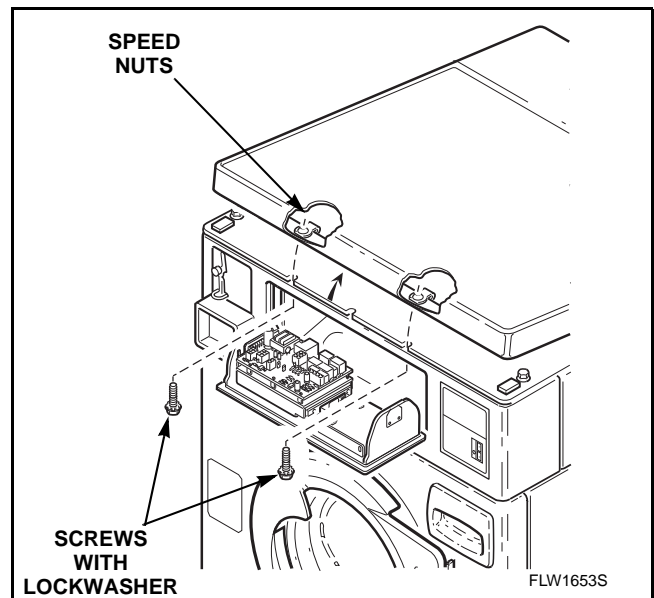
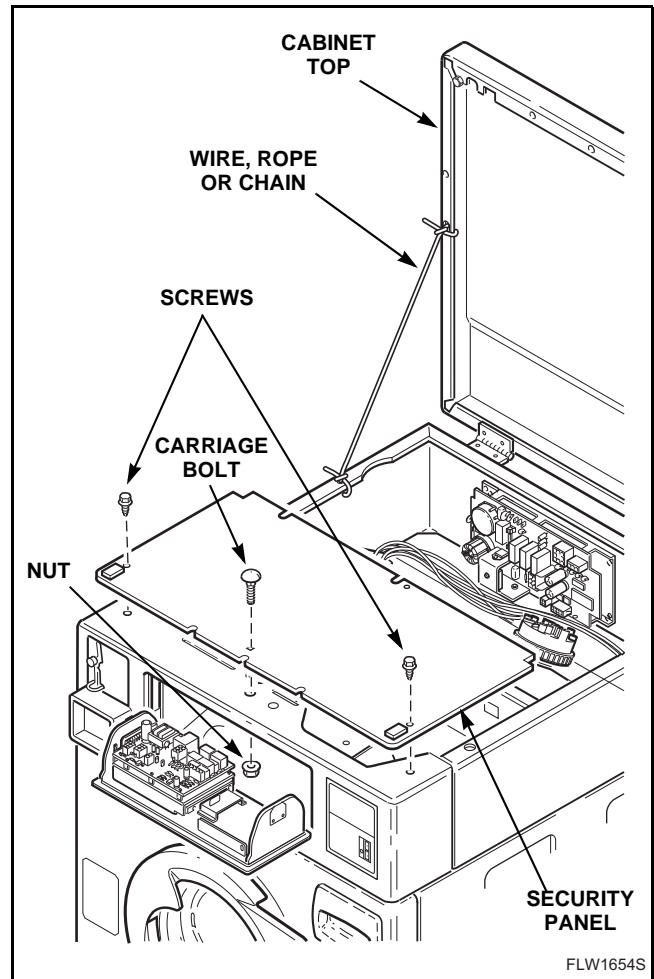
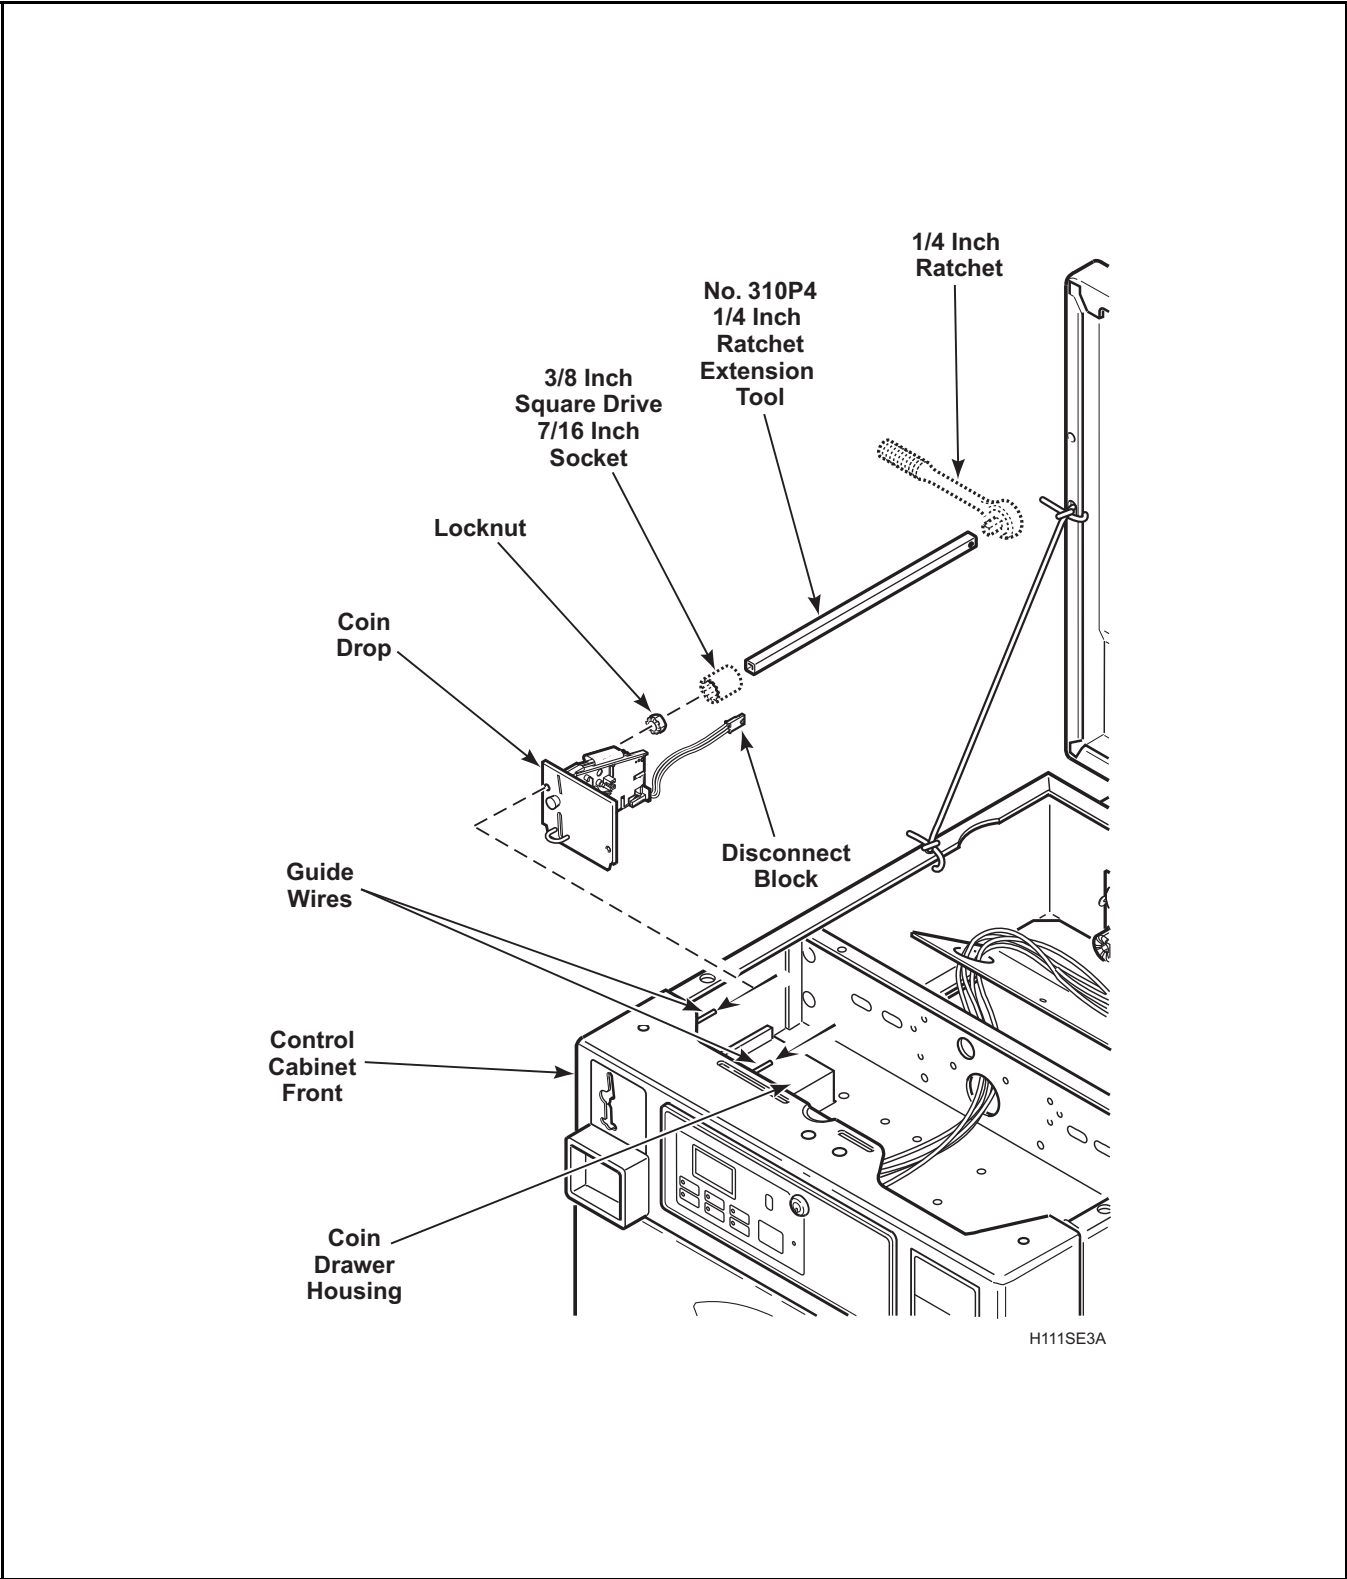
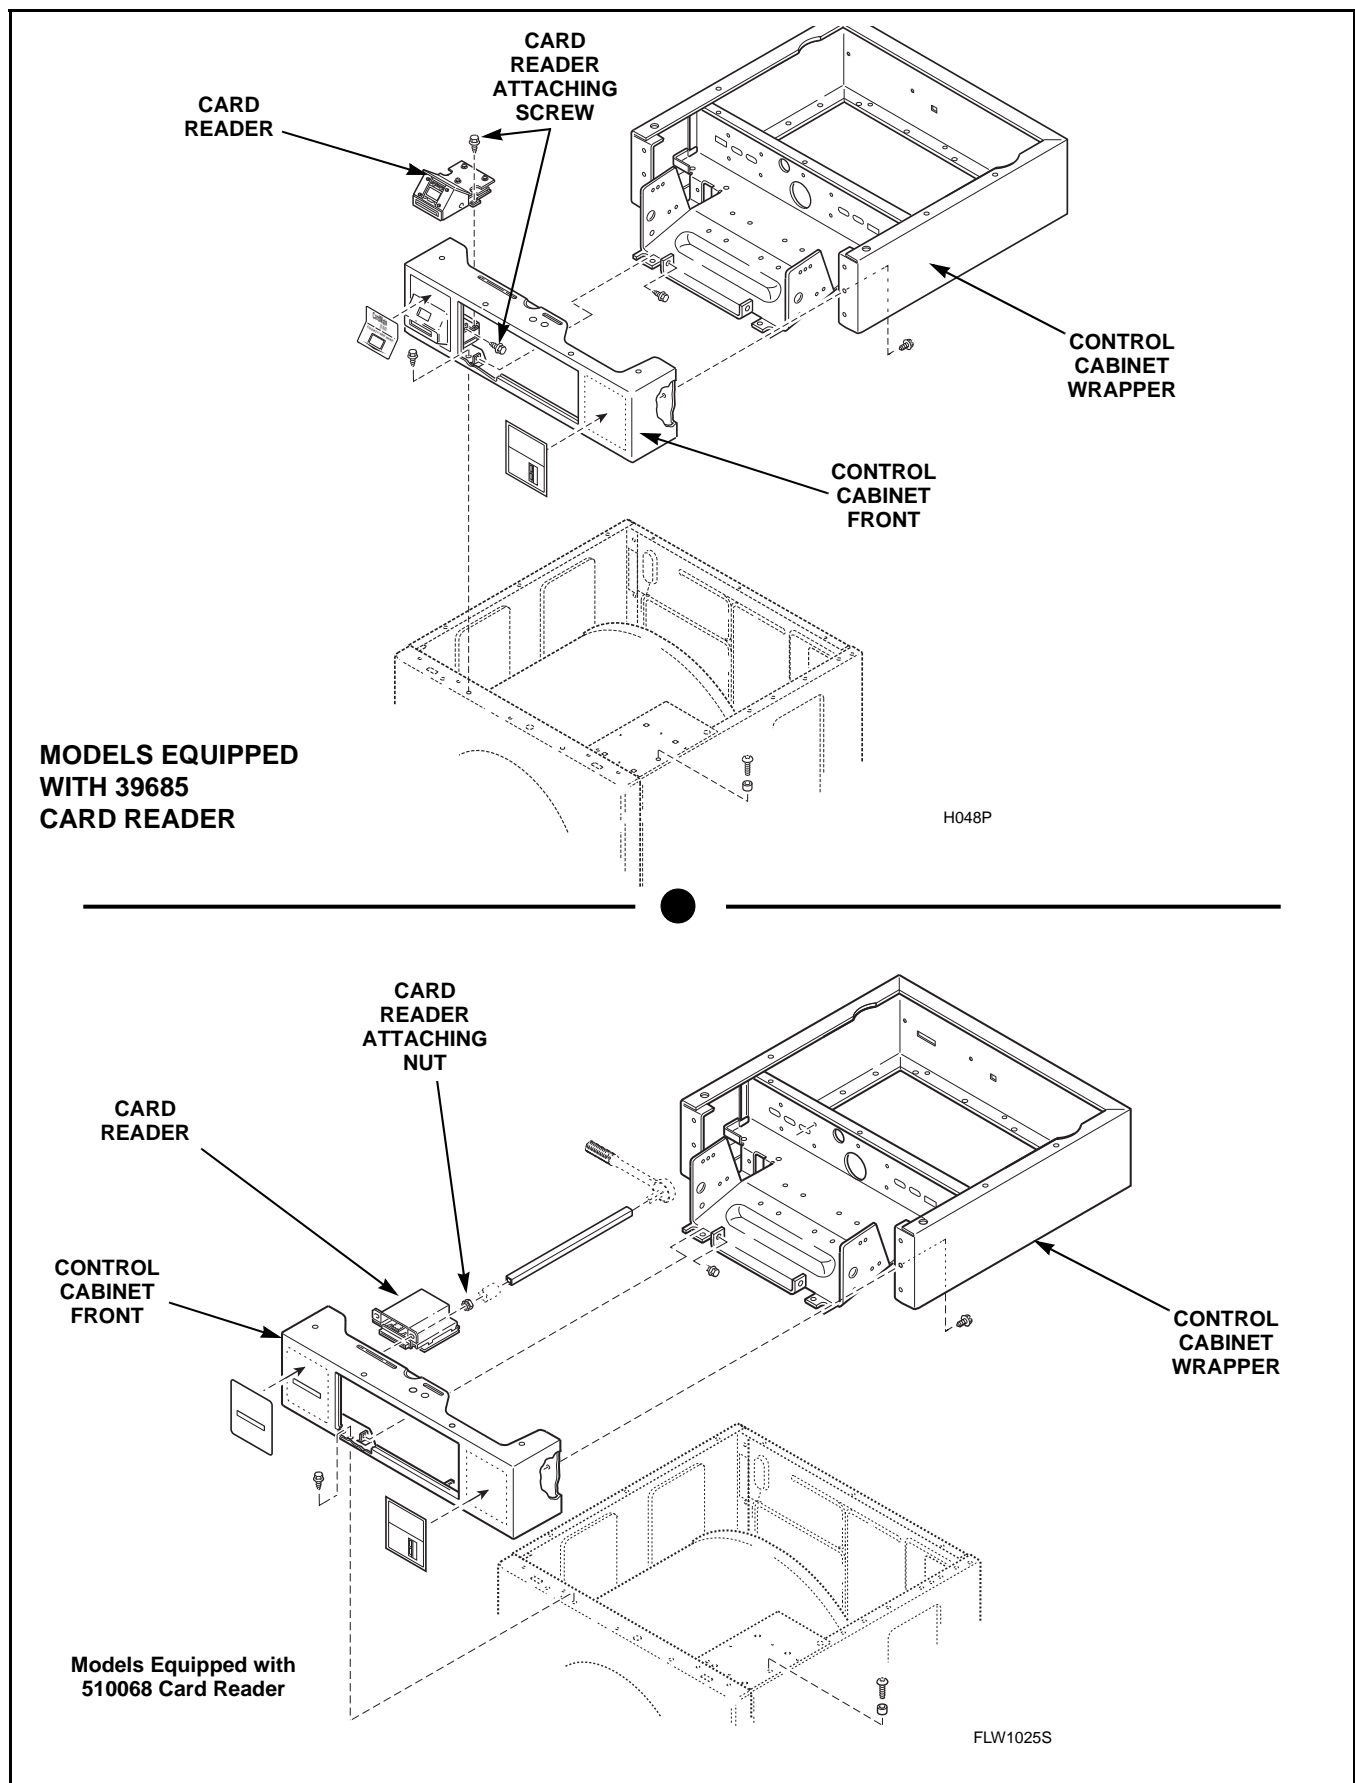

Figure 19
Figure 21
Figure 22
Figure 23
- d. Remove two screws holding front of cabinet top to top front edge of control cabinet front. Refer to *Figure 19*.
**NOTE: To avoid damage to hinges, be sure to support cabinet top with a small chain or something similar. Refer to *Figure 21*.**
- (4) Remove 2 screws holding front of cabinet top to top front edge of control cabinet front. Refer to *Figure 19*.
- (5) If area or space permits, lift cabinet top to a vertical position by hinging it on the rear hinges.
**NOTE:** To avoid damage to hinges, be sure to support cabinet top with a small chain or something similar. Refer to *Figure 21*.
- (6) If equipped with security top panel, remove screws and carriage bolt holding panel to control cabinet front. Refer to *Figure 21*. Slide security top panel back just far enough to disengage tabs on panel from control cabinet front and remove security panel. Refer to *Figure 21*.
- (7) Disconnect coin drop harness at disconnect block.
- (8) Use a 3/8 inch square drive socket, with number 310P4—quarter inch Ratchet Extension Tool, to remove 2 locknuts holding coin drop to front of control cabinet.
**NOTE:** A 3/8 inch square drive socket, size 7/16 inch, fits over end of the 310P4 Extension Tool. A 1/4 inch ratchet fits in the other end. Refer to *Figure 22*.
- (1) Lift coin drop up on coin drawer housing.
- (2) Line up holes in the front face plate of coin drop with the 2 guide wires. Slide coin drop forward, making sure guide wires are through holes in front face plate of coin drop.
- (3) Slide coin drop forward all the way until front face plate of coin drop is up against the control cabinet front, with the coin return stop completely through slot.
- (4) Using a 3/8 inch square drive 7/16 inch socket with number 310P4 1/4 inch Ratchet extension Tool, reinstall both locknuts and tighten locknuts firmly.
- (5) Reconnect coin drop wire harness.
- (6) Reinstall security top panel and secure using screws and carriage bolt previously removed.
- (7) Lower cabinet top into position and reinstall 2 screws (previously removed) holding cabinet top to top front edge of control cabinet front. Refer to *Figure 19*.
- (8) Reinstall control panel in control cabinet and lock control panel.
- (6) Remove screws and carriage bolt holding security top panel to control cabinet front. Refer to *Figure 21*. Slide security top panel back just far enough to disengage tabs on panel from control cabinet front and remove security panel. Refer to *Figure 21*.
- (7) Disconnect card reader harness at disconnect block.
- (8) Use a 3/8 inch square drive socket, with number 310P4 1/4 inch Ratchet Extension Tool, to remove screws or nuts holding card reader to control cabinet front and carefully remove card reader out through top of control cabinet. Refer to *Figure 23*.
**NOTE: A 3/8 inch square drive socket, size 7/16 inch, fits over end of the 310P4 Extension Tool. A 1/4 inch ratchet fits in the other end. Refer to *Figure 23*.**
- (1) Carefully place card reader into opening in control cabinet front.
- (2) Using a 3/8 inch square drive 7/16 inch socket with number 310P4 1/4 inch Ratchet Extension Tool, secure card reader to control cabinet front with screws or nuts previously removed. Refer to *Figure 23*. Then tighten screws or nuts firmly.
- (3) Reconnect card reader harness.
- (4) Reinstall security top panel and secure using screws and carriage bolt previously removed.
- (5) Lower cabinet top into position and reinstall 2 screws (previously removed) holding cabinet top to top front edge of control cabinet front. Refer to *Figure 19*.
- (6) Reinstall control panel in control cabinet and lock control panel.
- Remove two screws holding front of cabinet top to top front edge of control cabinet front. Refer to *Figure 19*.
- If area or space permits, lift cabinet top to a vertical position by hinging it on the rear hinges. Refer to *Figure 21*.